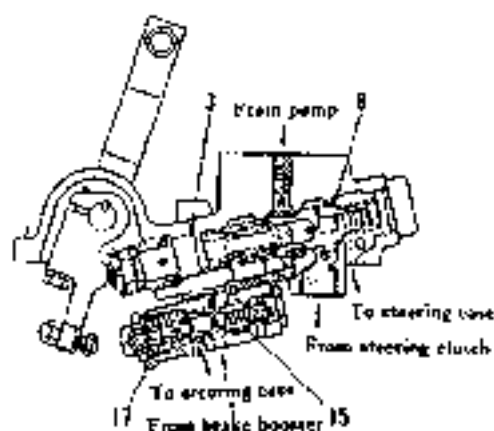

Fig. 2-76
(6) When the steering and brake valves are in neutral:
When the steering lever is released, the tension of each spring pushes shaft (3), shaft (17), brake valve (15) and steering valve (8) back in the direction of the arrow, then steering valve (8) closes the passage between ports A and B and opens the passage around port G so that the oil in the steering clutch is drained to the steering case via port G. Brake valve (15) closes the passage between ports D and E and opens the passage between ports E and H so that the oil in the brake booster is drained to the steering case via port H. (as shown in Fig. 2-76).